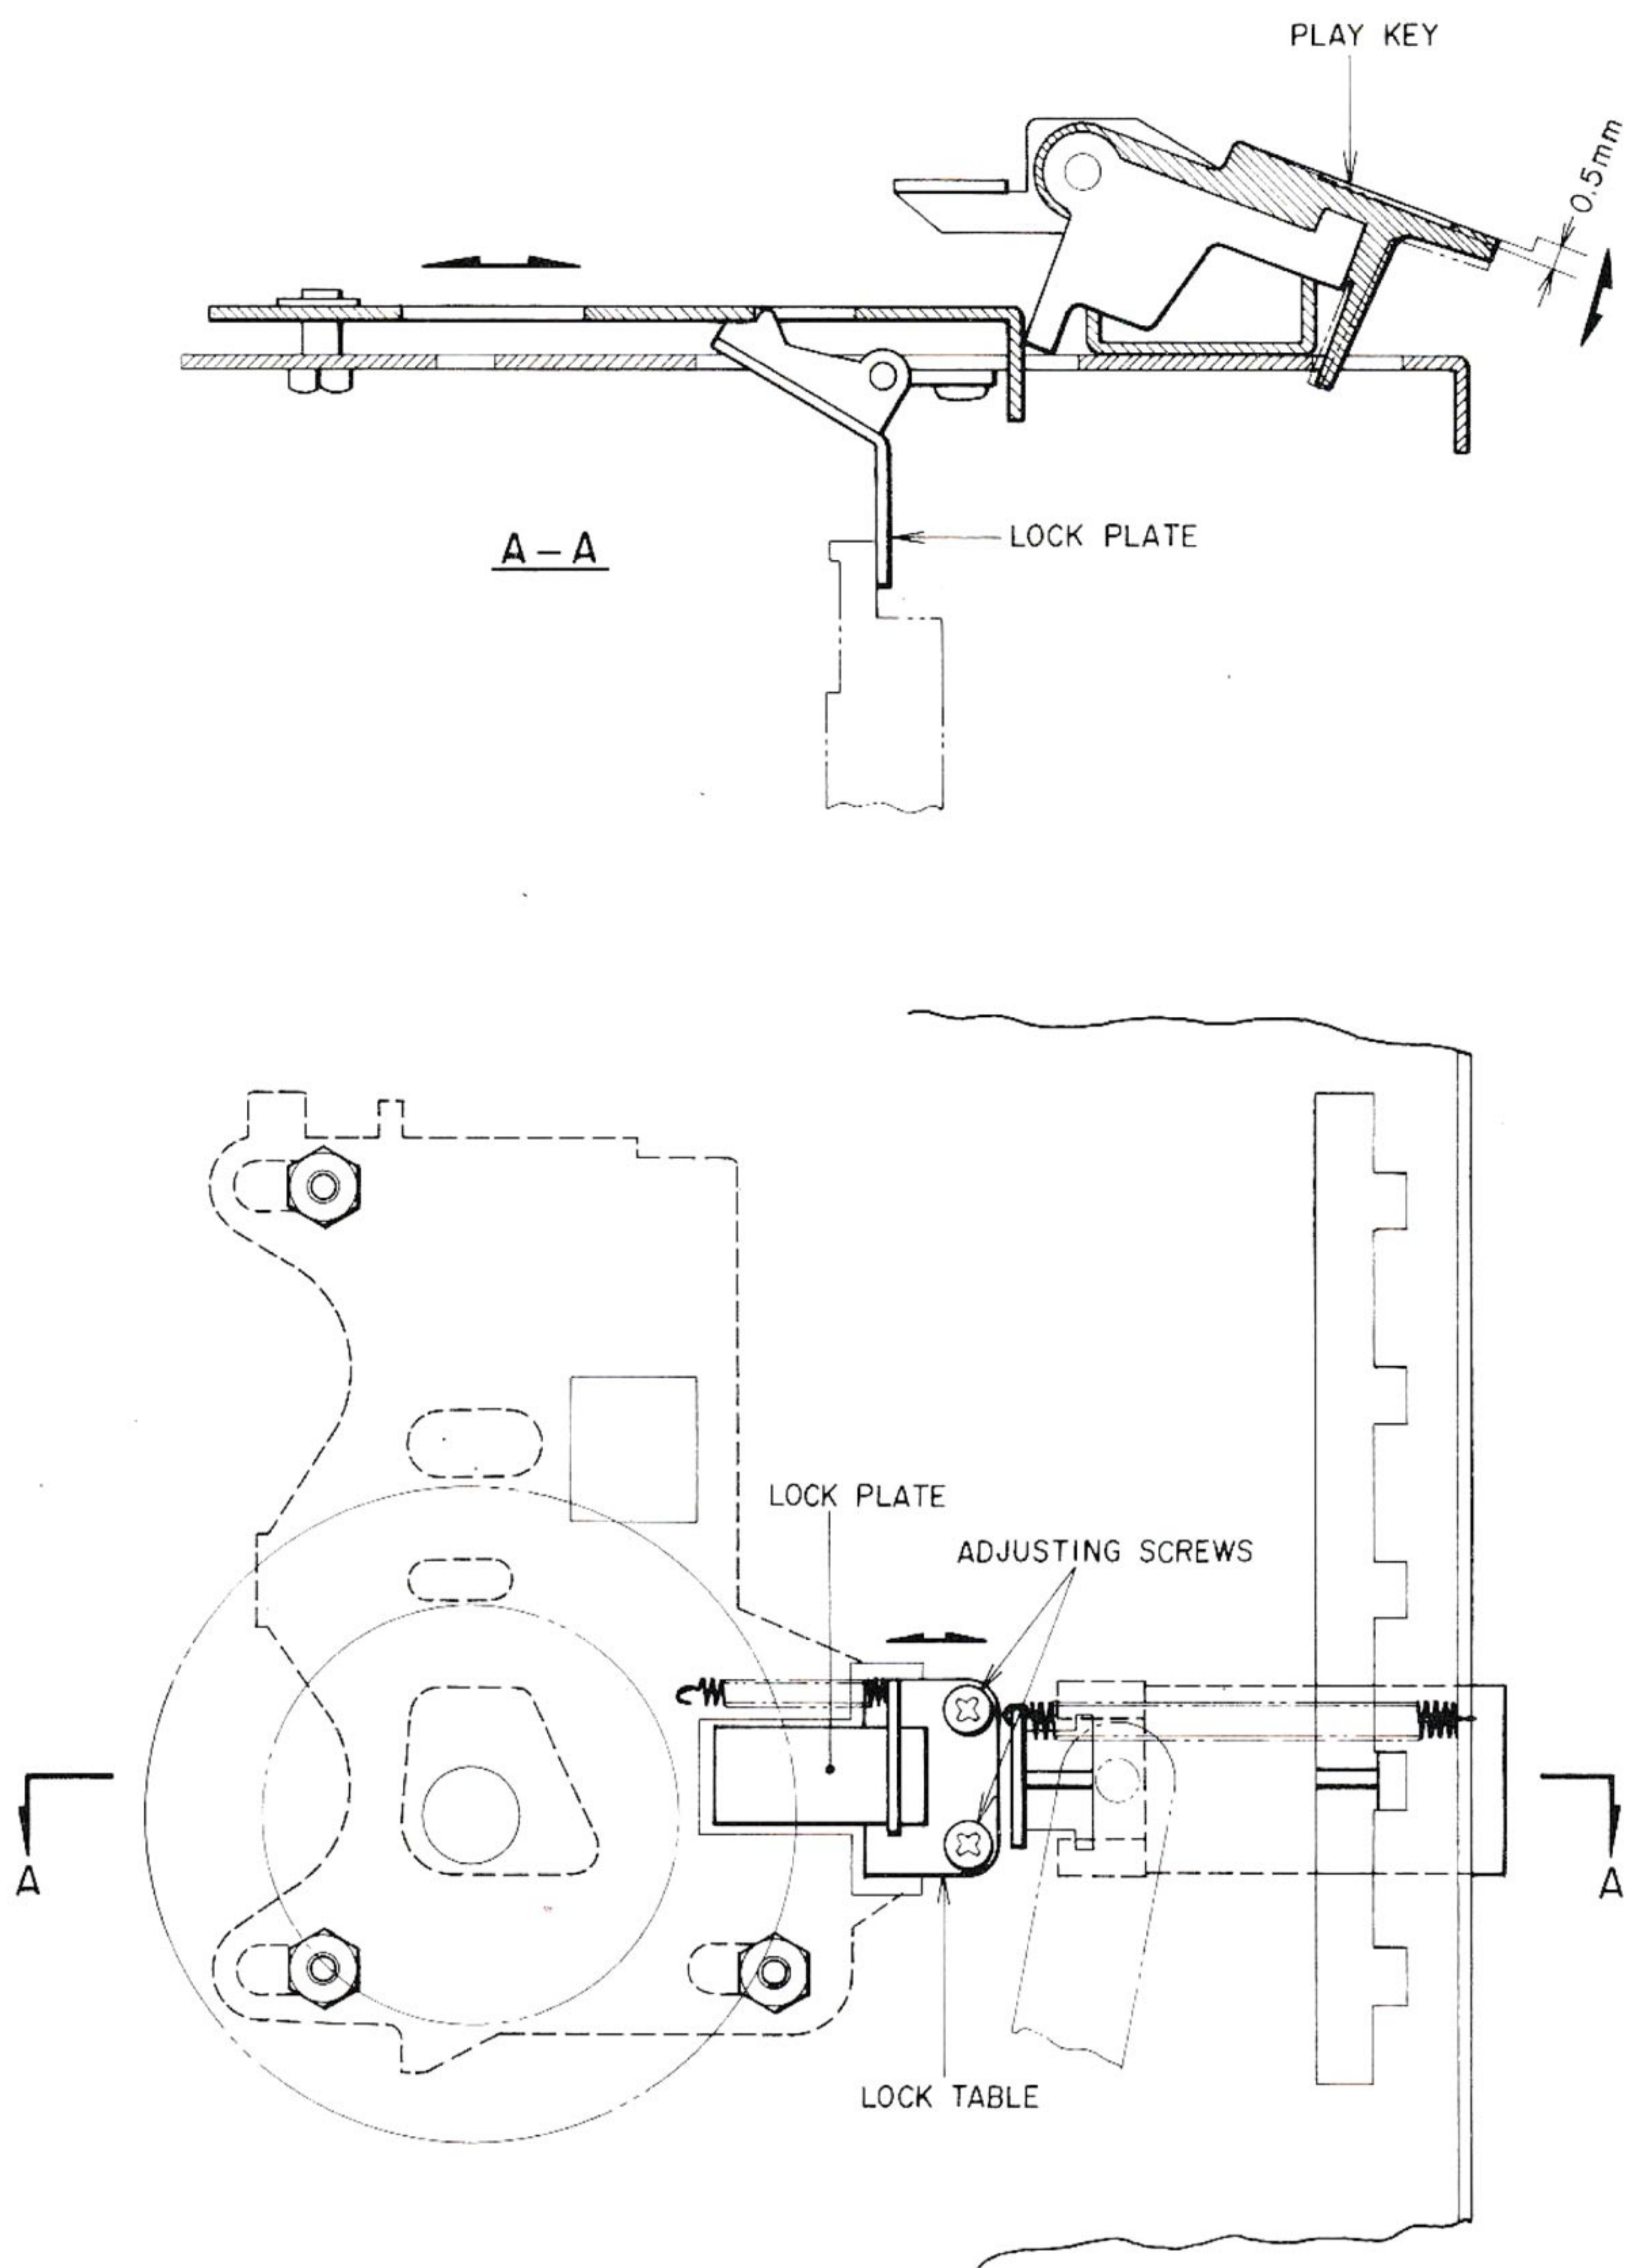

Fig. 8
- 5-3 HEAD STAND LEVER ADJUSTMENT (See Fig. 8)